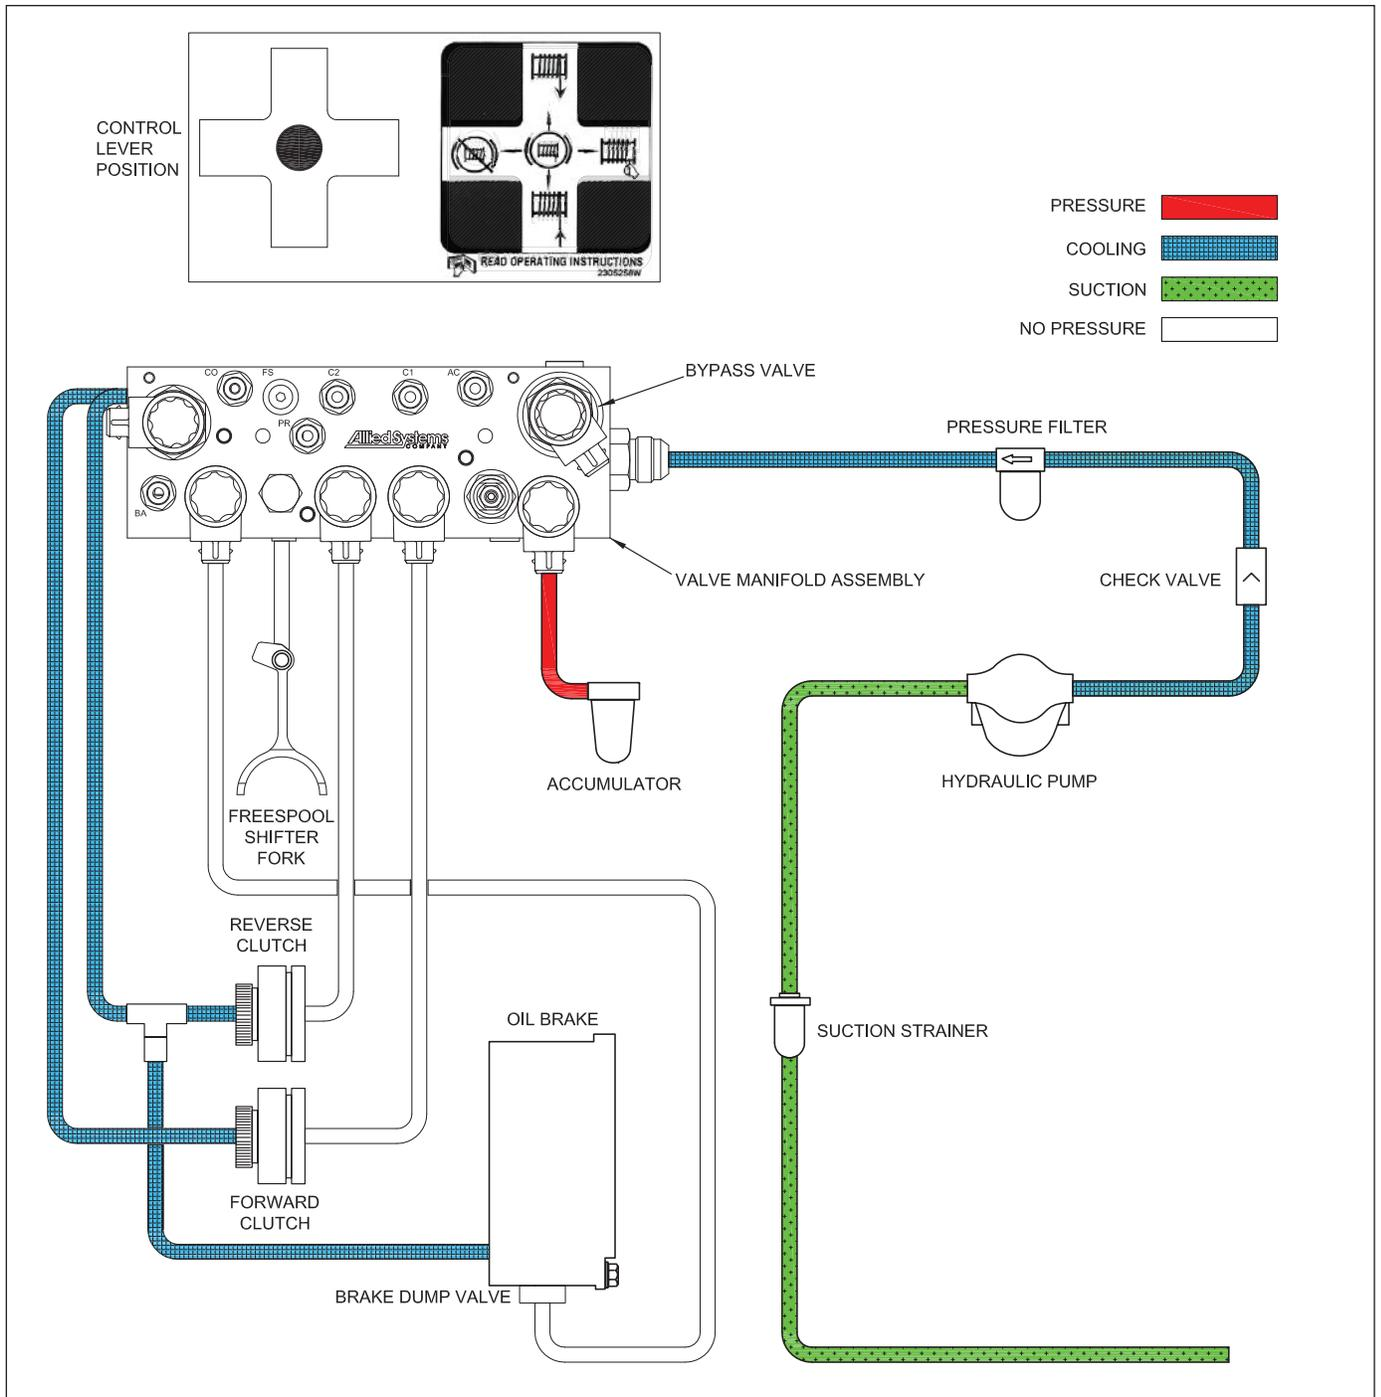

Figure 3-10 Hydraulic System, Electronic Controls - BRAKE-ON (Neutral)
**NOTE:** Figures 3-10 through 3-13 show the sequences of operation for the new type of manifold (See Figure 3-5).